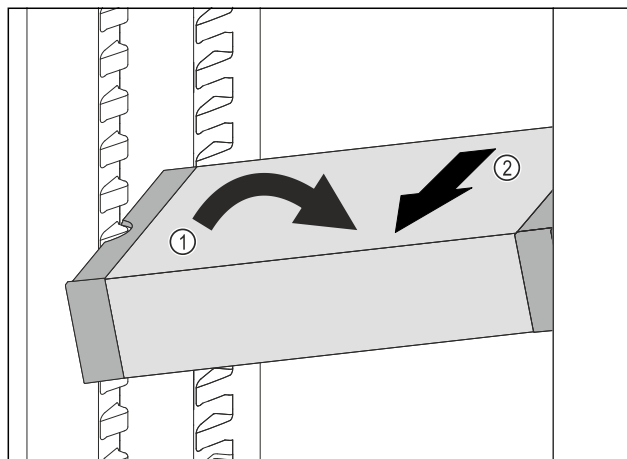

Fig. 135
- ▶ Set VarioSafe in refrigerator compartment at an angle. *Fig. 135 (1)*
- ▶ Take VarioSafe out to the front. *Fig. 135 (2)*